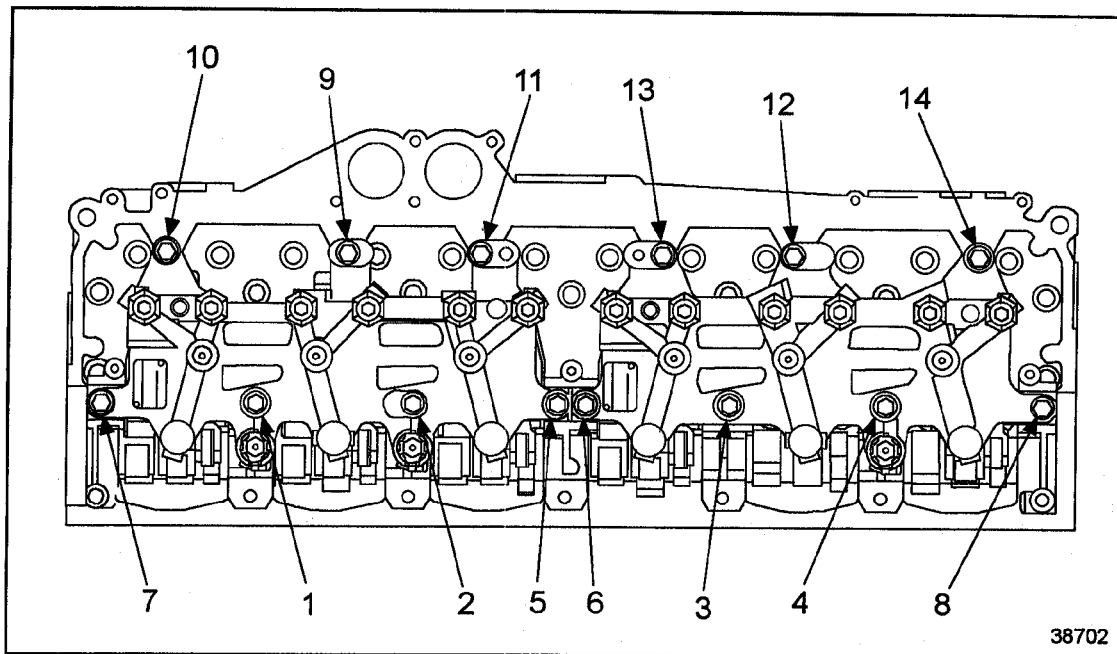

Figure 1-458 Housing Hold-Down Bolt Locations
3. Install six (6) 170 mm bolts through the housings into the rocker shafts in locations 1 through 6, and install two (2) nuts in locations 7 and 8. See Figure 1-458.
4. Install six (6) 140 mm bolts into each housing and through the spacers in locations 9 through 14.
5. Torque all mounting bolts to 136 N·m (100 lb-ft) in bolt location number sequence shown. See Figure 1-458.